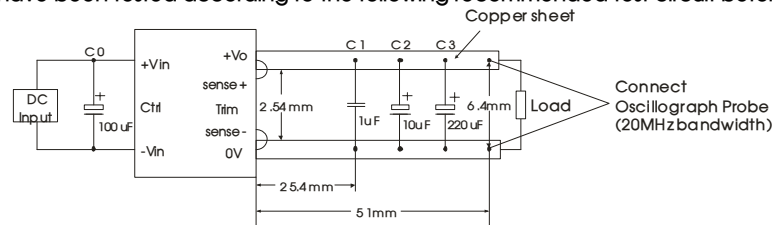

Fig. 1
Note: * The measuring method of ripple and noise, please refer to Fig. 1 .
All the URF1D_QB-50W(H) series have been tested according to the following recommended test circuit before delivery (see Fig. 1).